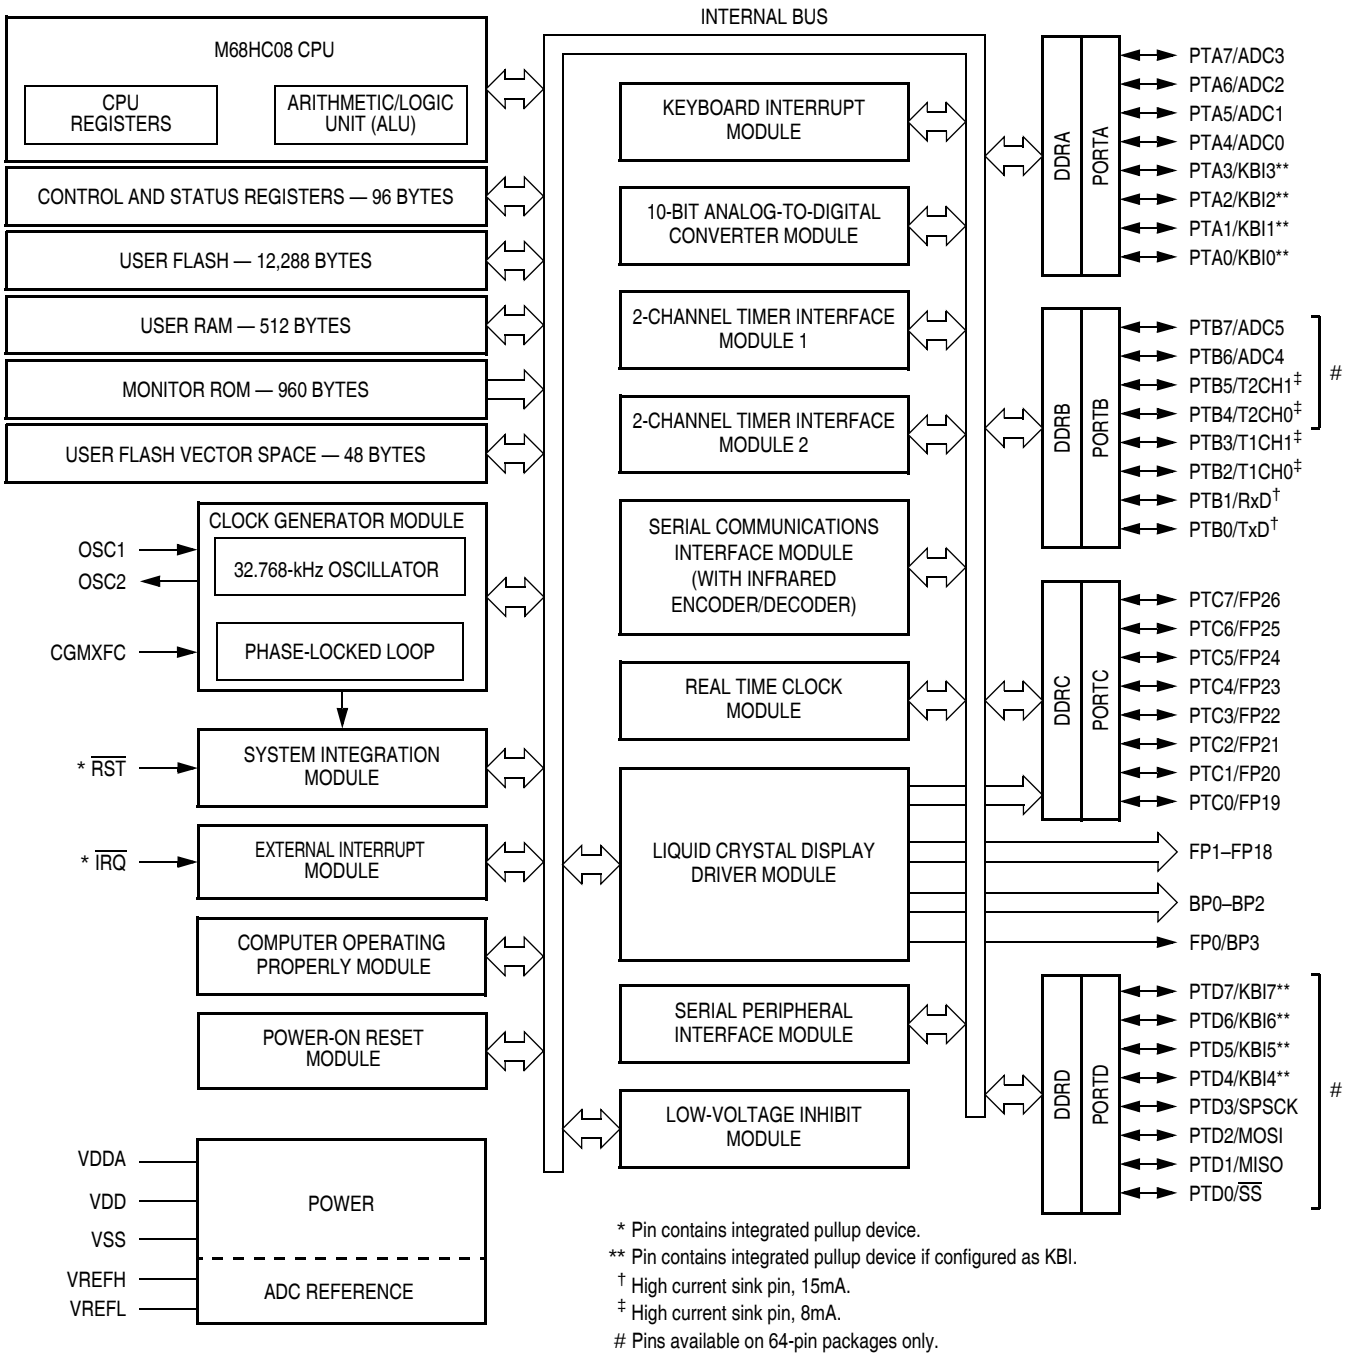

Figure 1-1. MC68HC908LJ12 Block Diagram
**Figure 1-1** shows the structure of the MC68HC908LJ12.